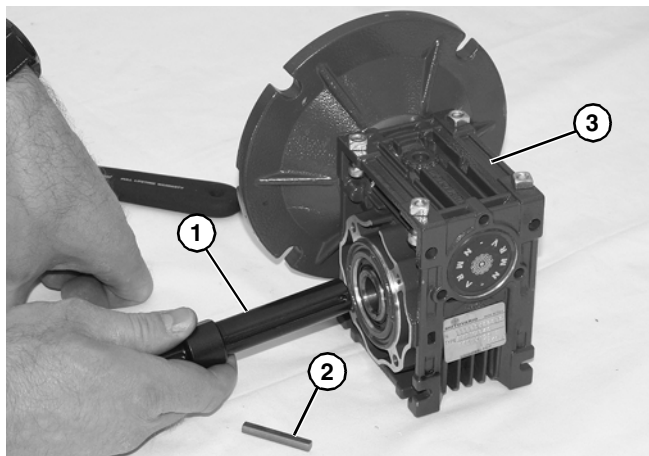

Figure 23
4. Remove driveshaft (Figure 23, item 1) and key (Figure 23, item 2).
5. Replace gear reducer (Figure 23, item 3).
7. Replace the original shaft components into new gear reducer (Figure 23).